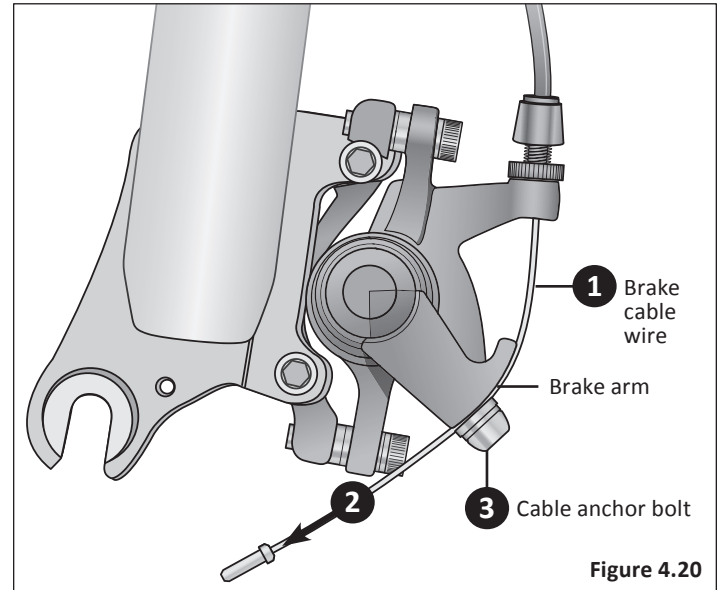

Figure 4.20
- 1 If the brake cable wire is not attached to the brake arm then loosen the cable anchor bolt until you can see a gap large enough for the brake cable wire. **Figure 4.20**